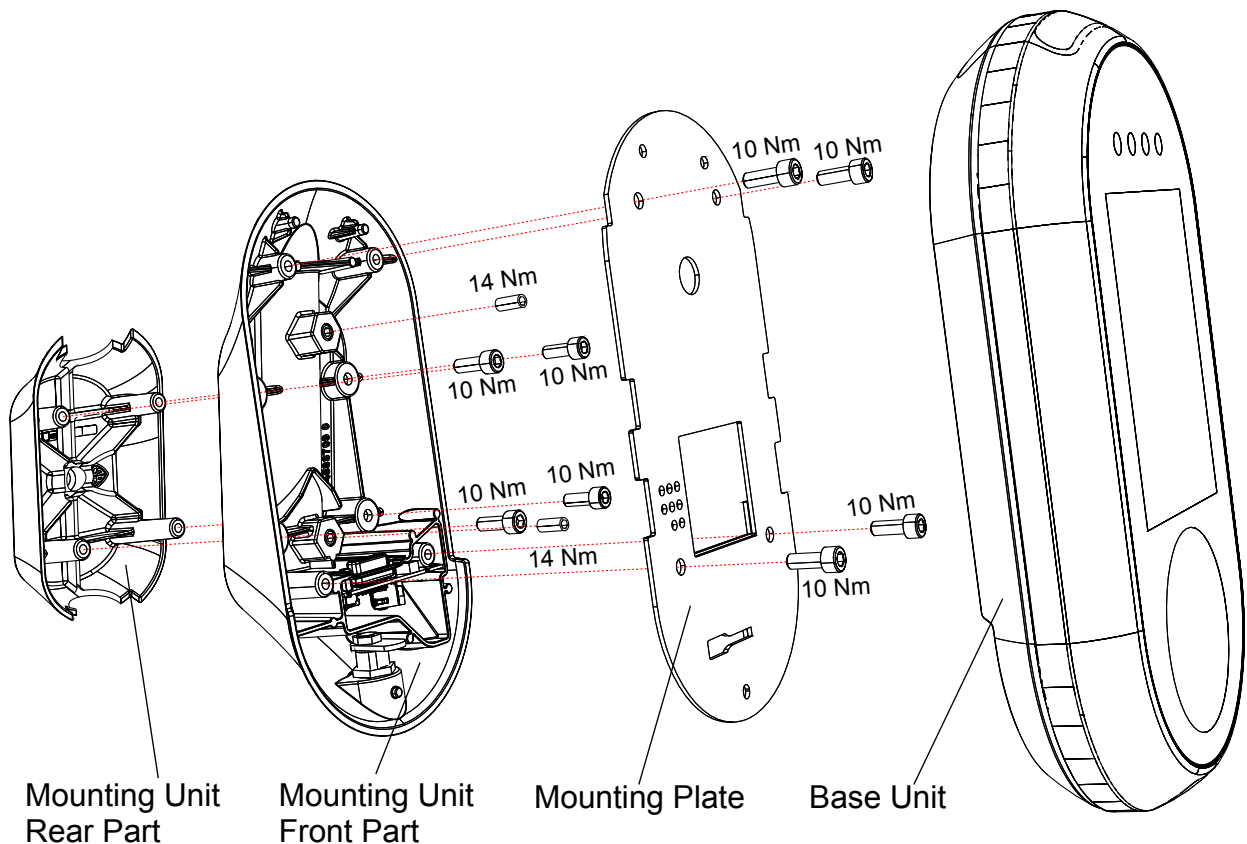

Figure 4-18 Module Removal - Mounting Unit
The drawing in **Figure 4-18** illustrates how to remove the OV|41 mounting unit from the mounting bar.
- STEP 8:** Set the mounting unit rear part on the mounting unit front part and fix it with the four screws shown in **Figure 4-18**
- STEP 9:** Set the mounting plate on the mounting unit front part and fix it with the four screws shown in **Figure 4-18**